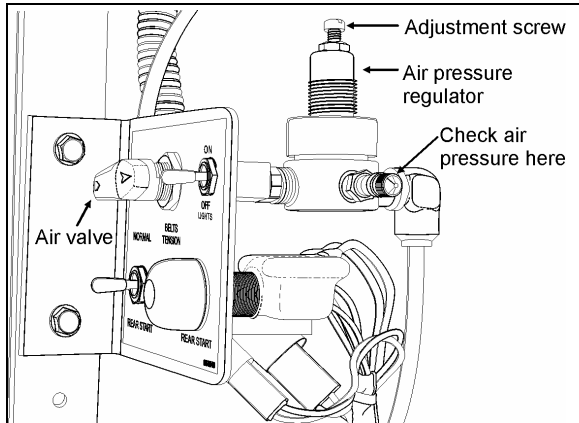

FIGURE 23: TENSIONING VALVE
1. Open engine compartment rear doors and locate the belt tensioner two-way control valve (figure 23), mounted above the A/C compressor, then turn handle counterclockwise in order to release pressure and tension on belts.
4. Reset belt tensioning pressure control valve (figure 23). Pressure is factory set to 45 psi (310 kPa), periodically check proper pressure.